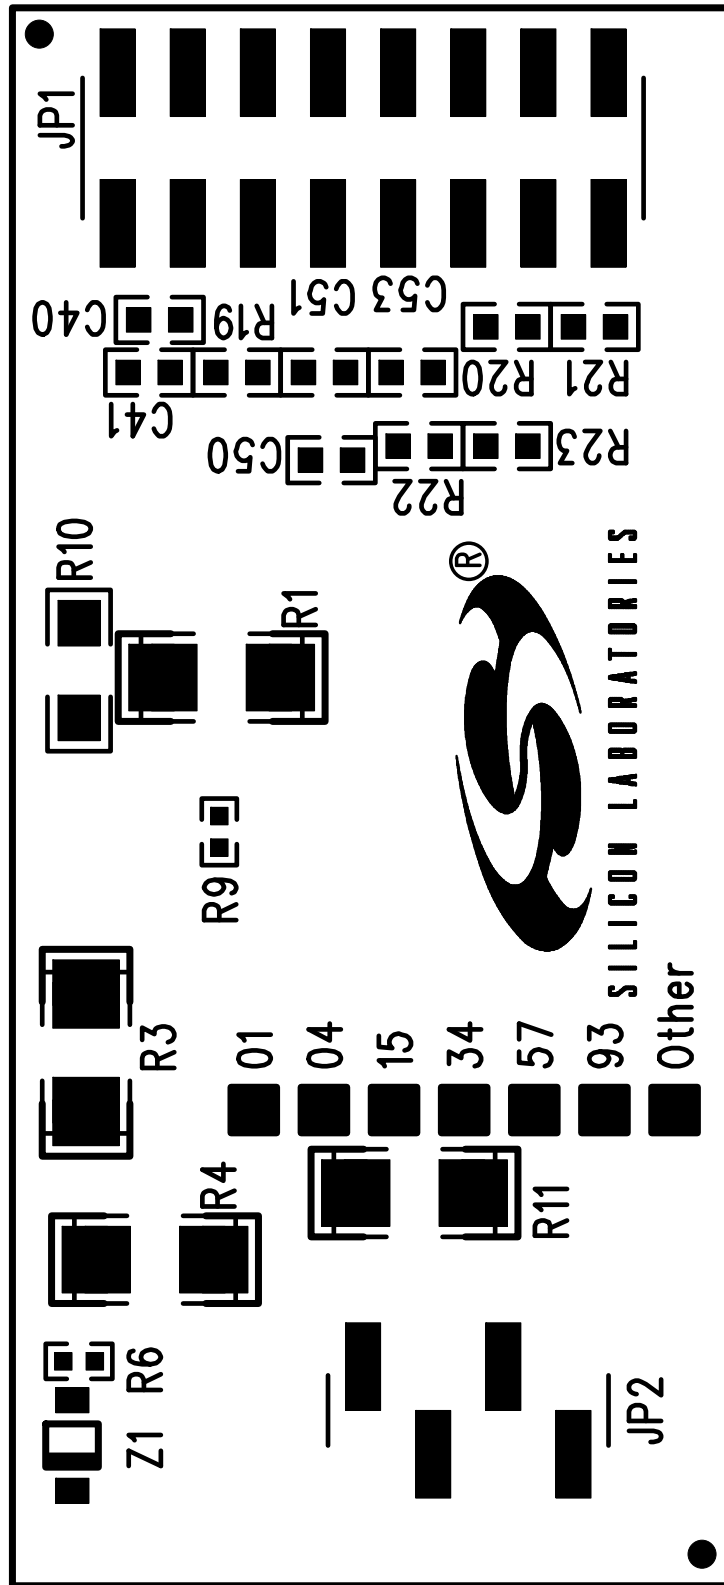

Figure 21. Daughter Card Solder Side Silkscreen
- Updated Figure 21, “Daughter Card Solder Side Silkscreen,” on page 25